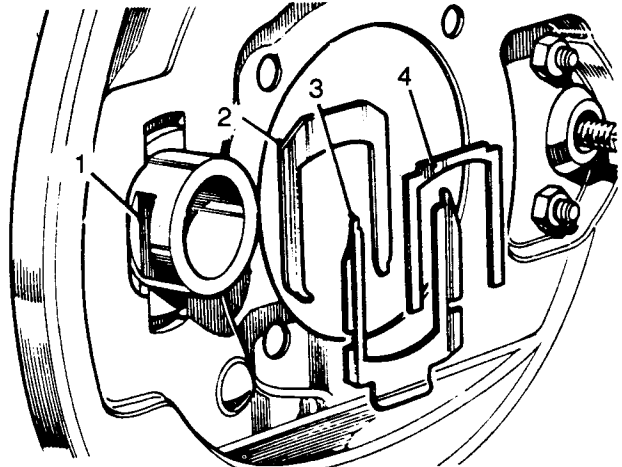

Fig K2.11
- (6) Refer to Fig K2.11. Position the adjuster housing (1) on the back plate.
- (7) Fit the packing piece (2).
- (8) Fit the locking plate (3).
- (9) Fit the retainer spring (4).